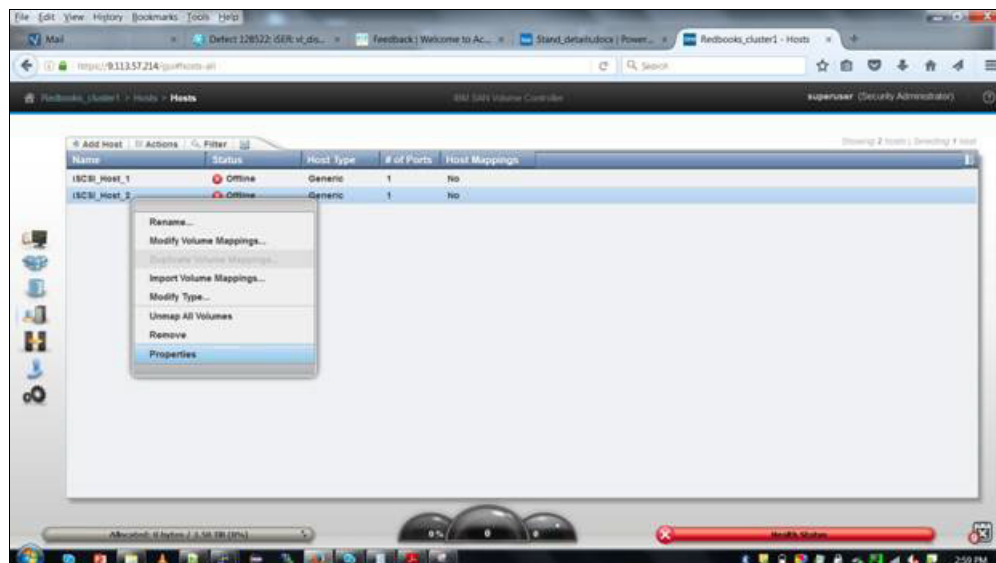

Figure 5-2 Modifying the host properties
2. Select **Hosts** → **Hosts** to display the list of configured host objects. Right-click the host object for which the one-way CHAP secret must be set. Then, click **Properties**, as shown in Figure 5-2.